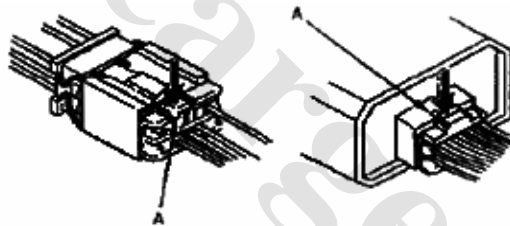

Fig. 4-1
2. All interfaces equipped with pushing separated latch fitting (A). (Fig. 4-1)